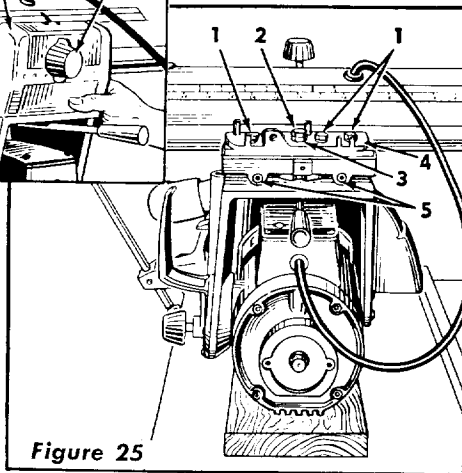

Figure 25
4. Loosen 3 hex head machine screws (Item 1, figure 25), eccentric hold-down screw (Item 2, figure 25) and two adjusting set screws in the holes on the side of the carriage (Items 5, figure 25). Use 1/8 hex "L" wrench on set screws.
5. Rotate eccentric bushing (Item 3, figure 25) clockwise to obtain snug fit. The ball retainer (Item 4, figure 25) should be guided at both ends by hand to prevent cocking.